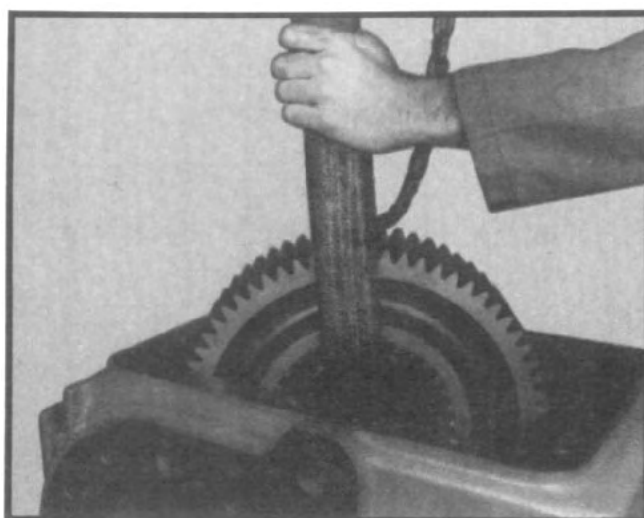

Fig. 40
1.16 Lift the underdrive gear out of the case. (See fig. 40.)